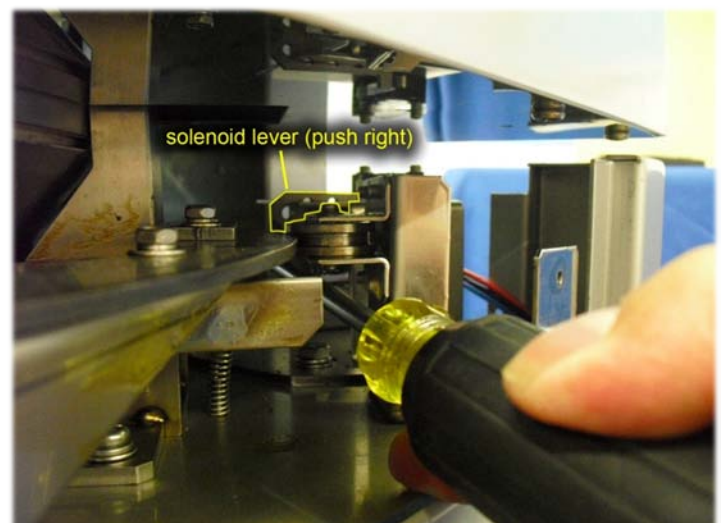

Figure 4
1. The solenoid is defective and needs to be replaced. Please contact Yamato Scientific customer service at (408) 235-7725.
4. Once removed, locate the solenoid lever (see Figure 4).